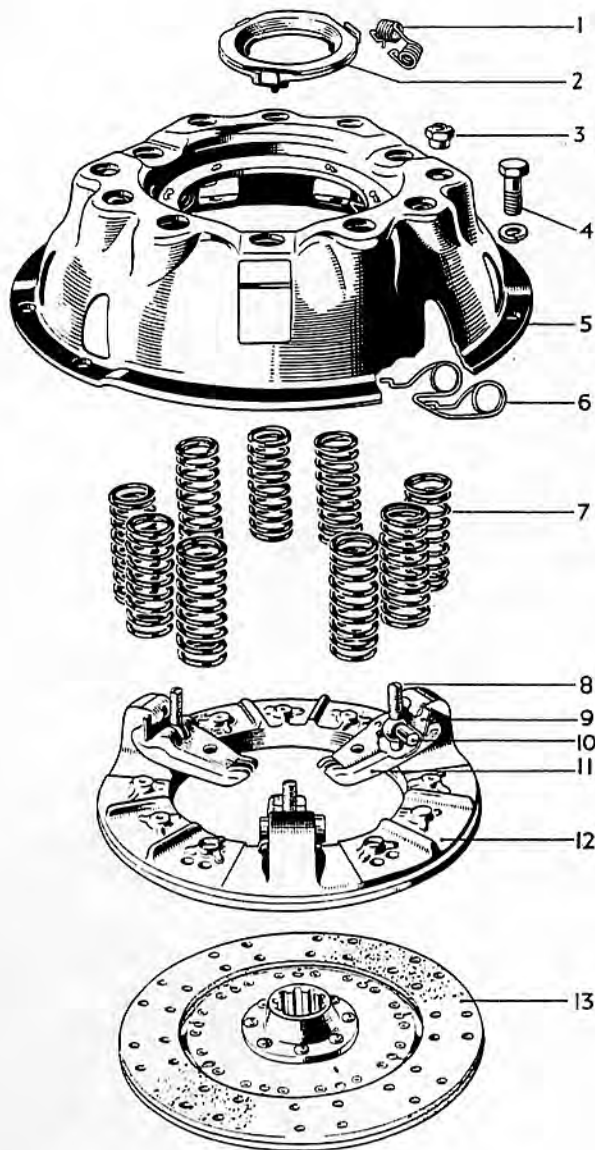

FIG. 11 EXPLODED VIEW OF SINGLE CLUTCH
1. Assemble release lever (4), eye-bolt (6), and eye-bolt pin (5) holding the inner end of the lever and the threaded end of the eye-bolt as close together as possible. Insert strut (9) in slot in pressure plate lug sufficiently to allow plain end of eye-bolt to be inserted in hole in pressure plate. Move strut upwards into slot in pressure plate lug and over ridge on short end of lever and drop it into groove formed into latter. Fit remaining release levers in a similar manner.
2. Arrange thrust springs (3) in vertical position on pressure plate, seating on bosses provided (Fig. 11).